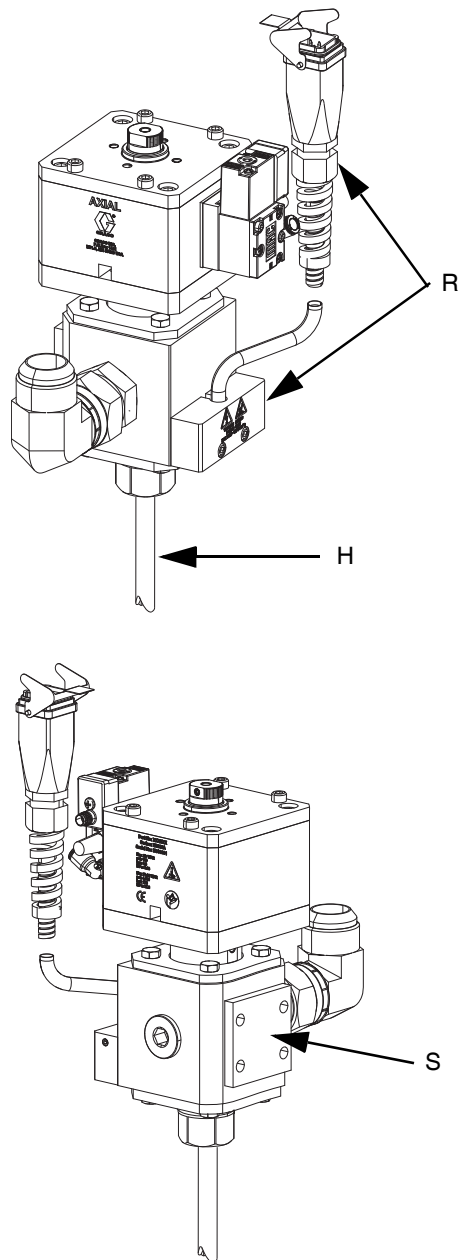

FIG. 1: Axial Dispense Valve
- a. For valves with a Solenoid (J) mounted to the Air Section (B), connect the air supply tube to the Air Fitting (A). See FIG. 1 on page 6.